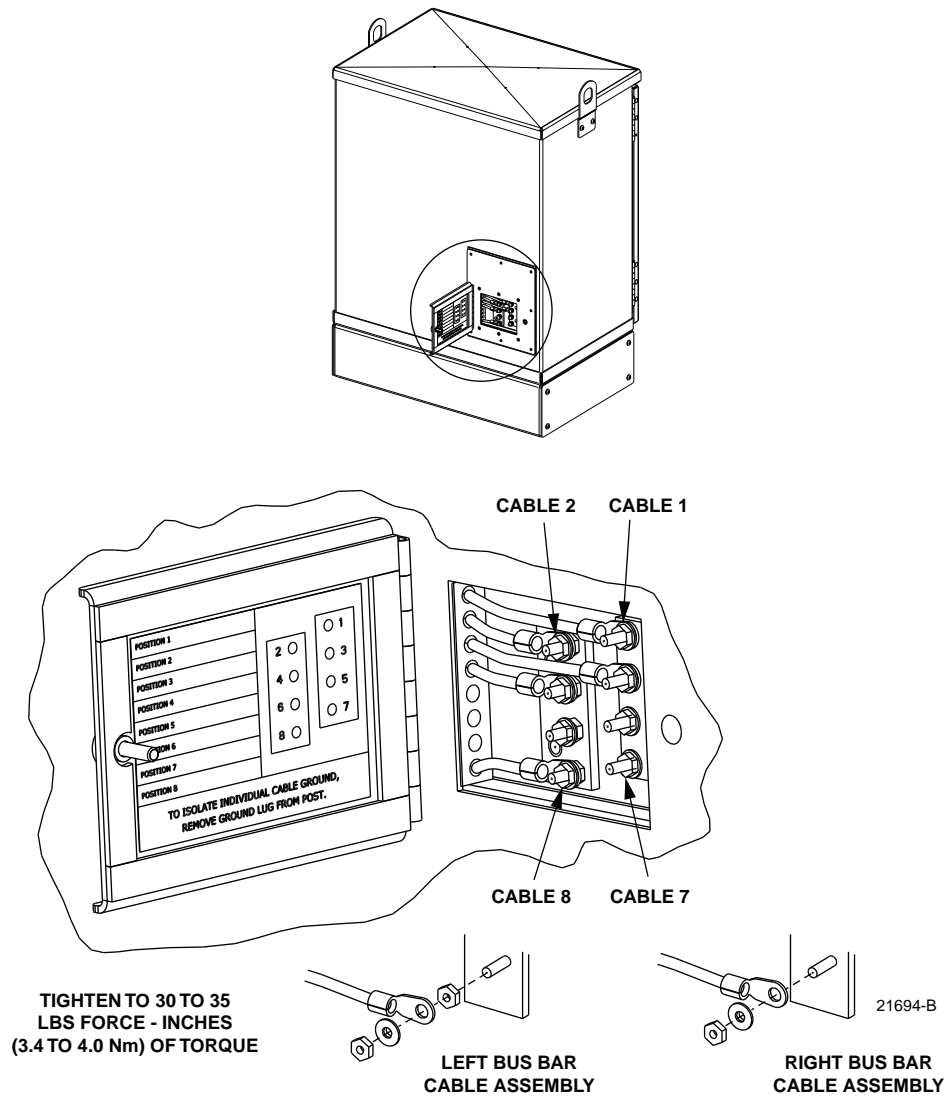

Figure 43. Grounding Block Access Cover
1. Locate the small hinged access cover at the rear side of the cabinet as shown in Figure 43.